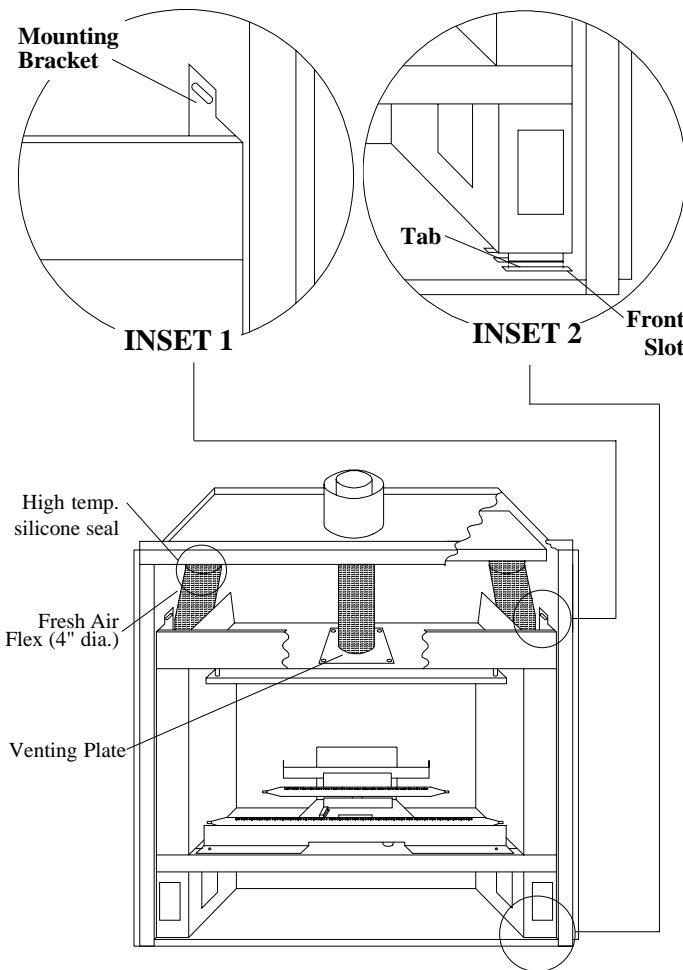

Figure 24. MD44-DV insert.
2. Remove the fresh air flex from the collars on the shell. *See Figure 24. Important: Be careful not to damage the fresh air flex during removal or storage.*